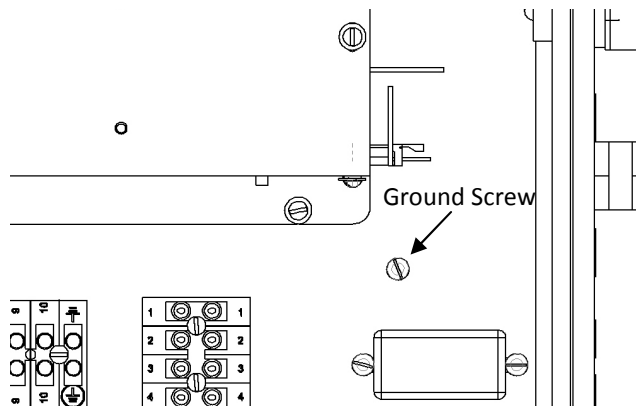
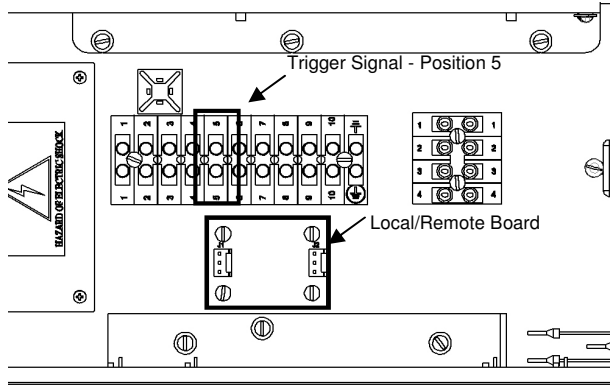
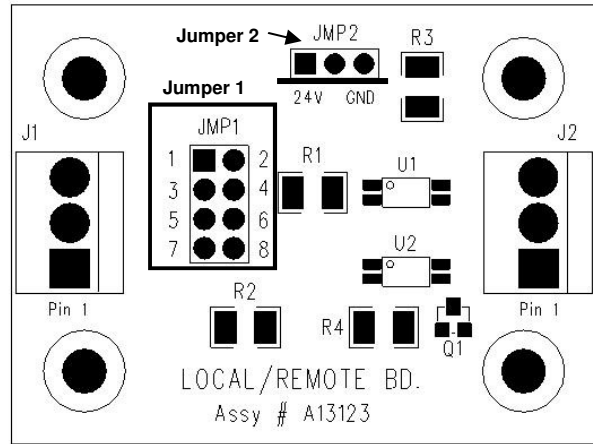

Figure 13: Ground Screw on Base Plate
Figure 14: Remote I/O Signal Terminal Block
Figure 15: Local/Remote Board Jumper Headers
3. If the flow switch is being used, connect the ground (green) lead from the flow switch to the ground screw on the base plate shown in Figure 13. The trigger signal (blue) lead should be connected to the trigger signal on the remote I/O terminal block connector (Position 5) as shown in Figure 14.
- The local/remote board (Assy# A13123), shown in Figure 14 at the bottom below the remote I/O signal terminal block, is designed for trigger protection in REMOTE mode. It must have the jumpers adjusted into "bypass position" to allow for LOCAL mode operation for the desired input type. The location of the jumpers on the board is displayed in Figure 15. Use the LOCAL mode jumper settings table for the jumper settings based upon your specific input.
- The local/remote board (Assy# A13123), jumpers must be adjusted into one of the two REMOTE settings, based on the desired input type, to allow for REMOTE mode operation. The location of the jumpers on the board is displayed in Figure 15. Use the REMOTE mode jumper settings table for the jumper settings based upon your specific input.